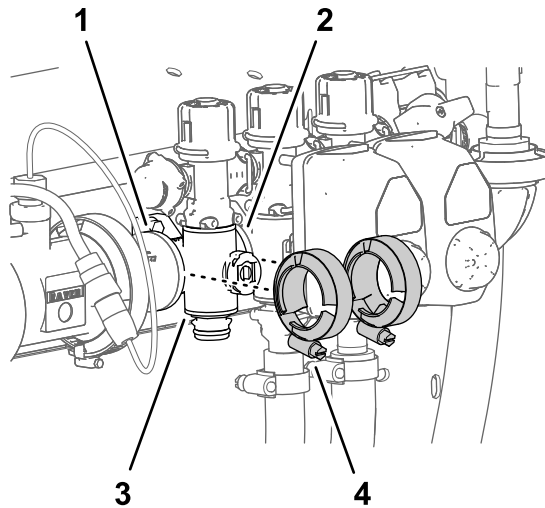

**Figure 114**
3. Assemble the quick-connect fitting of the section-valve manifold to the quick-disconnect socket of the section-bypass valve with a quick-connect pin (Figure 113 and Figure 114).
8. Assemble the quick-connect coupler of the section hose onto the quick-connect fitting of the section-valve manifold with the quick-connect pin (Figure 114).